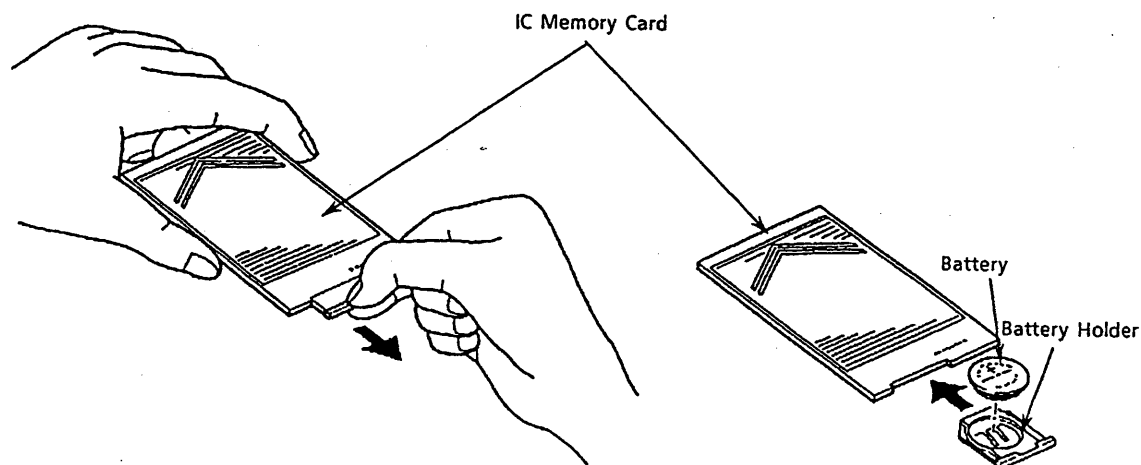

Figure 7.1
- (1) Hold the IC memory card with its part number label side on top.
- (2) Catch the side of the battery holder with your fingernail and pull out to remove the holder (Figure 7.1).
- (3) Insert new batteries B9586JU (for 3789 03, 64K bytes), B9586JV (for 3789 04 and 3789 05, 256K bytes, 512K bytes) into the holder.
- (4) Insert the battery holder into the IC memory card.